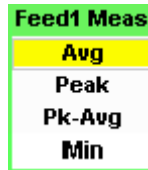

Figure 2-56 Measurement type pop-up
- 5 Press  to display the **Feed Measurement** pop-up (see Figure 2-56) and use the  and  in assign a measurement type.